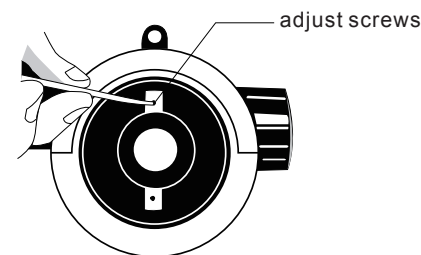

Fig.13
- (2)Move the instrument 2m away from A, the readings are a2,b2(Fig.13)
- (3)Calculate $b2'=a2-(a1-b1)$.If $b2'=b2$, it shows that line of sight is no need to correct.
- (4)If $b2' \neq b2$,it shows that correction shall be needed.
- (5)Point the optical sight to staff B,screw off the eyepiece cover, adjust the screw of cross-hair to make middle hair give the required reading $b2'$.
- (6)Repeat the above until $|b2' - b2| < 3mm$.